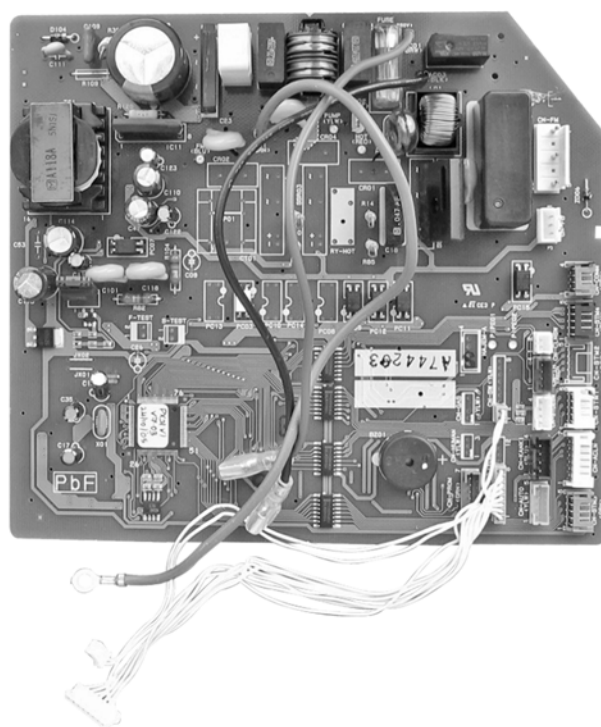

Fig. 7
13. Slide out the Indoor Electronic Controller. (Fig. 7)